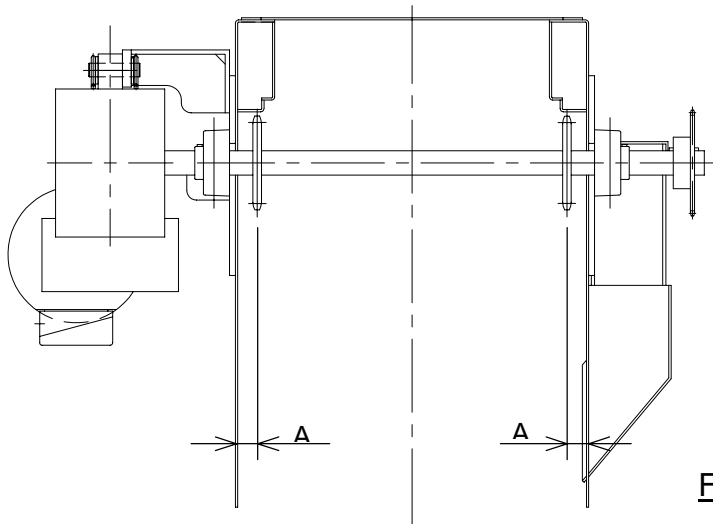

Fig.5
- (2) Loosen the lock nuts to bolt 'A' and the take-up bolts.
- (3) Do the take-up bolts up right and left alternately as tight as possible. After that, rotate the take-up bolts counter-clockwise about one point five rounds. Left and right take-up bolts are independent of one another, therefore keep tension even on both sides.
- (4) Measure distance 'A' (Fig. 5) between the main sprocket wheel and the inside edge of the frame